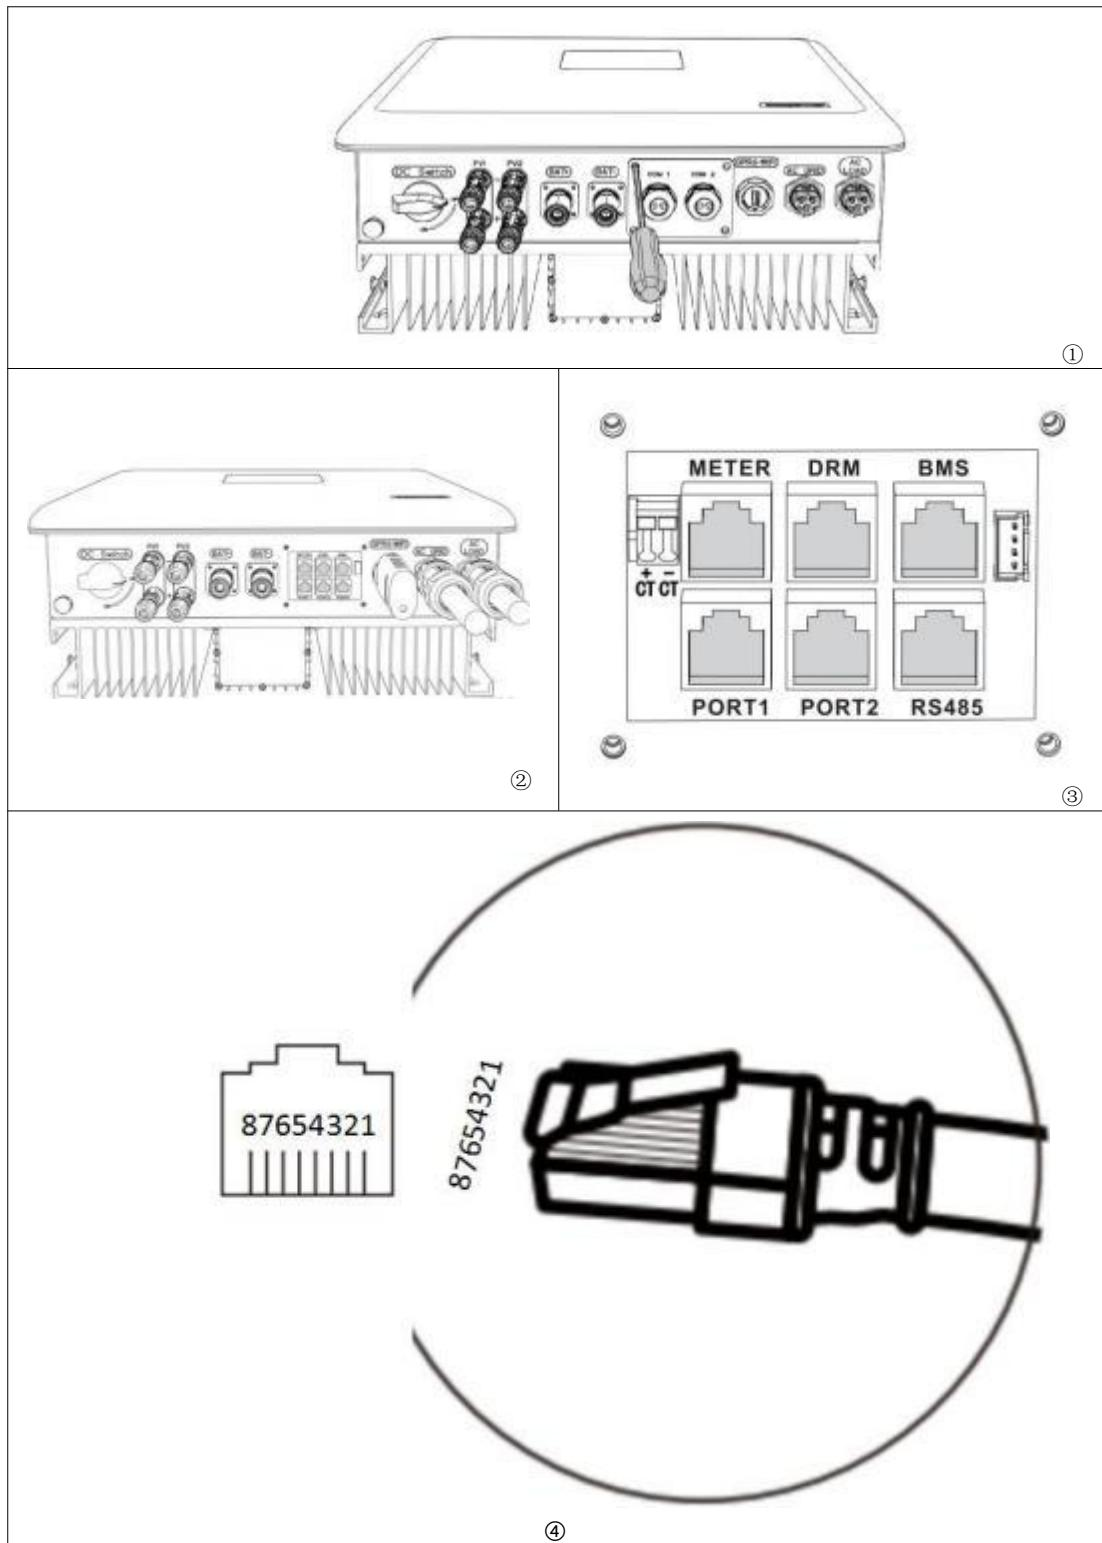

Figure 17: COM Interface
Note: In the figure 17④, the tag on the left represents the pin tag in the crystal slot of the inverter, and the digital tag on the right represents the pin tag on the RJ45 Registered jack inserted into this end of the inverter.
If the user needs to use the CT alone, please connect the CT to METER PIN7 and PIN8 via the RJ45 crystal header. Alternatively, connect the white wire of CT to CT+ and the black wire of CT to CT - through dry contacts (see Figure 17 ③).